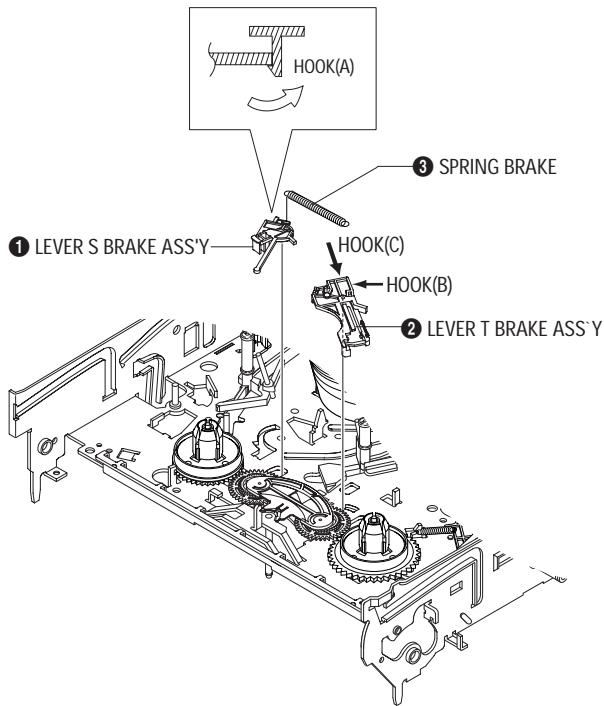

Fig. 5-25 Lever Brake S, T Ass'y Removal
- 1) Remove the Lever Brake S Ass'y (Refer to Fig 5-25).
- 2) Remove the Spring Tension Lever ①.
- 4) Lift the Lever Tension Ass'y ② & Band brake Ass'y ③.
- 1) Release the Hook [A] and the Hook [B], [C] in the direction of arrow as shown in Fig 5-25.
- 2) Lift the Lever S, T Brake Ass'y ①, ② with spring brake ③.